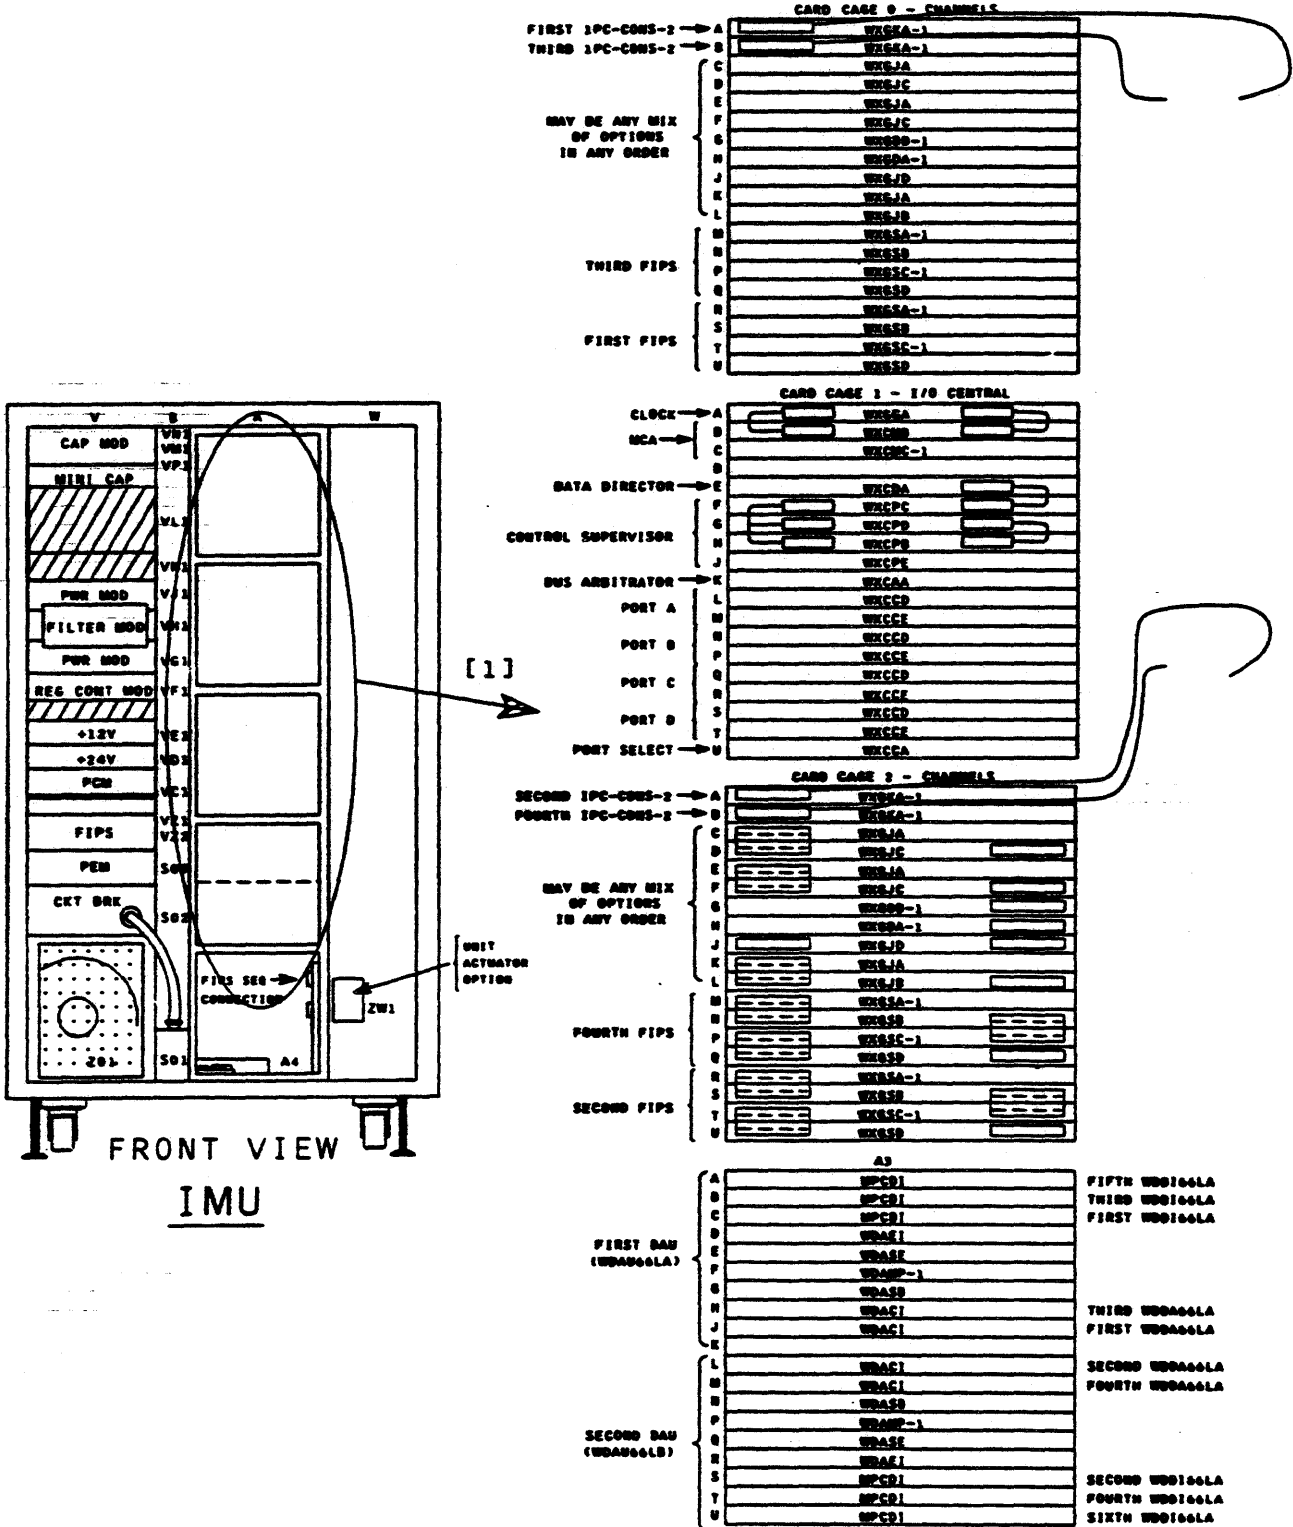

FIGURE 2.21-1. IMU LOGIC BOARD REMOVAL/INSTALLATION
5. Using logic board location diagram, identify position of faulty ORU (Figure 2.21-1, [1]).